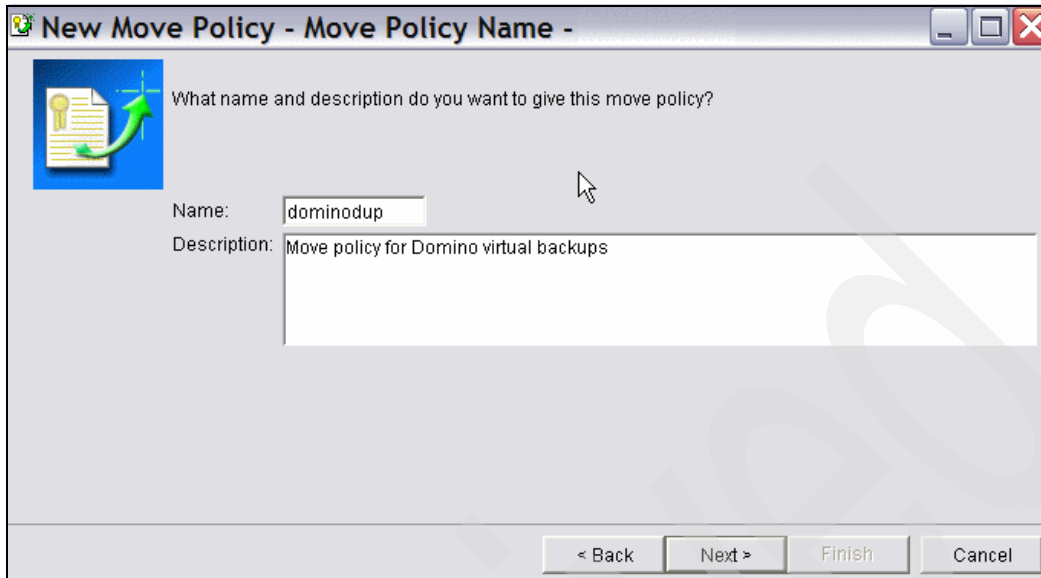

Figure 5-44 BRMS virtual move policy, name
2. After the Welcome window, the Move Policy Name window shown in Figure 5-44 on page 232 is displayed; input the following parameters: